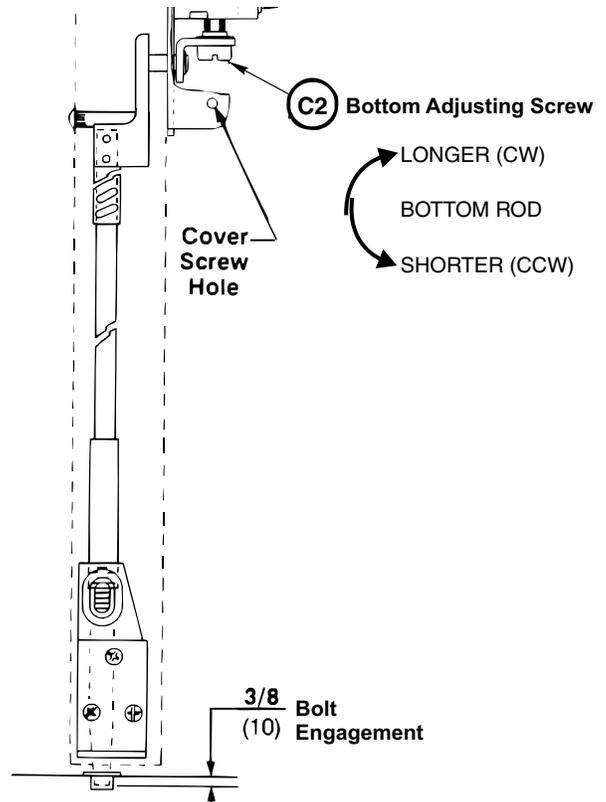

Figure 29
3. Adjust bottom rod with adjusting screw C2. (Figure 29) With top latch retracted in hold back position, and touchbar dogged or fully depressed, adjust bottom rod so that deadbolt clears strike by 1/16" (1.6). The bottom rod should be in position in active case with square head of connector hanging in the Guide. (See note in Step 2).